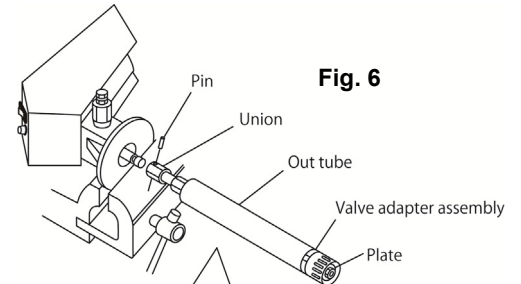
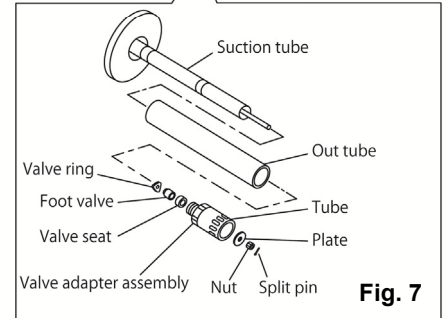

Fig. 6
Fig. 7
- 4) Fix the pump assembly on vise. (Fig.6)
- 5) Set a spanner on the valve adapter assembly and unscrew it. The suction tube can be pulled out from the motor. Continue to pull it out until it touches the plate. This will expose the union connecting to the Connecting Rod of the motor. Pull out the pin and unscrew the union, and the lower pump can be separated from the motor. Pull out the out tube. (Fig. 6) If only the valve adapter assembly pulled it out, remove the split pin, unscrew the nut, and remove the plate. Then pull out the out tube and unscrew the suction tube with pipe wrench (set on notched part of the suction tube). This will expose the union connecting to the Connecting Rod of the motor. Pull out the pin and unscrew the union, and the lower pump can be separated from the motor. Pull out the out tube. (Fig. 7)